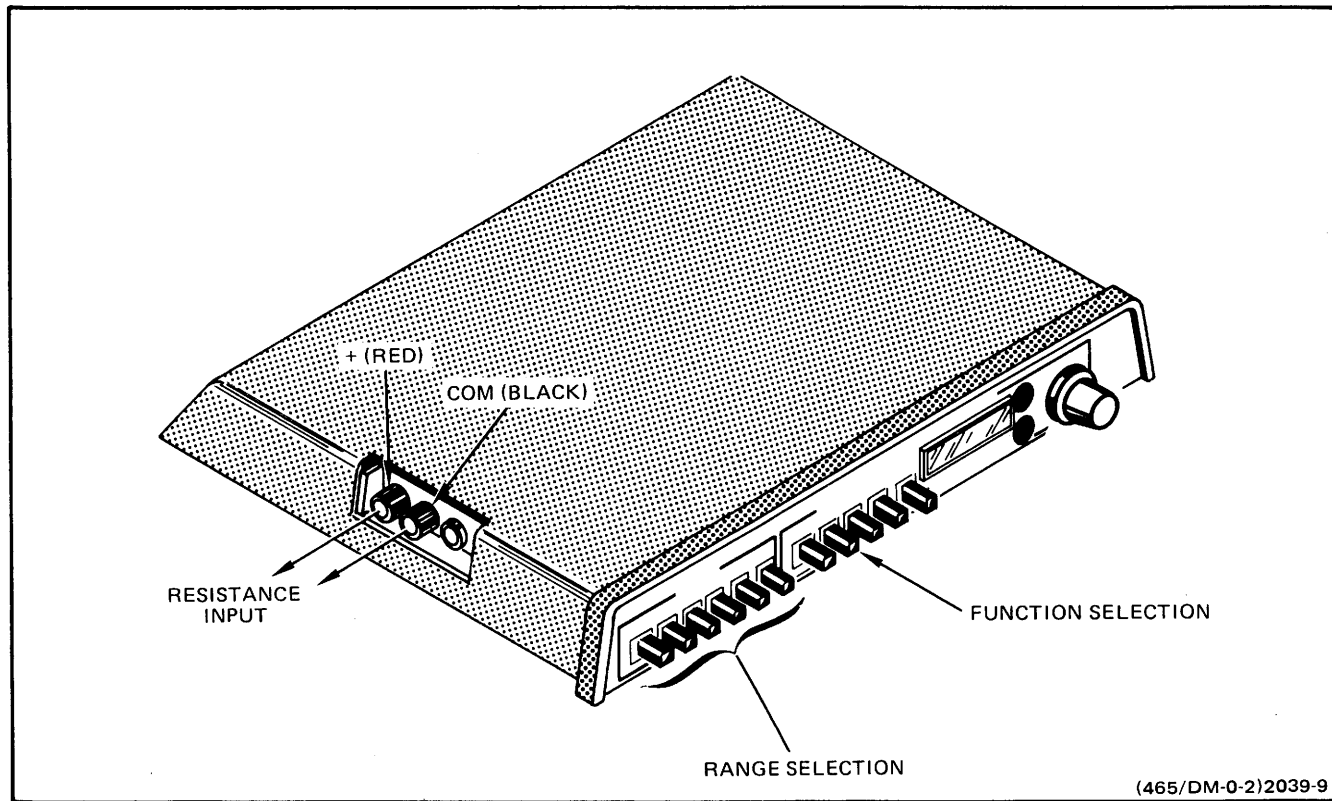

Fig. 10. Resistance.
1. Push in the OHMS FUNCTION button and the 20 M Ω RANGE button. See Fig. 10.